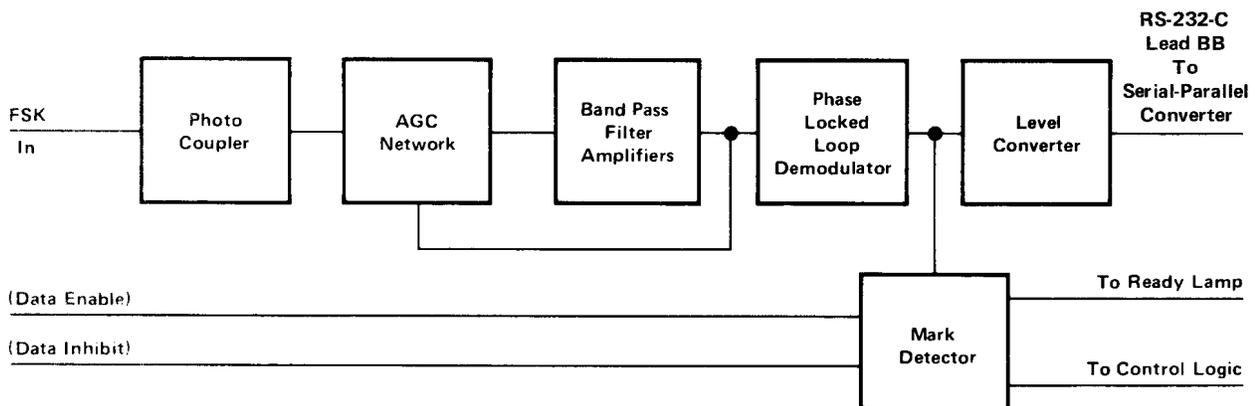

Figure 8, Demodulator Functional Block Diagram
3.06 Demodulator functions are shown in Figure 8. FSK data enters the photo coupler isolating circuit from the telephone line. The FSK signal is then fed to the AGC network. The network amplifies the signal for presentation to the bandpass filter amplifiers. The pre-selector filter is tuned to the band center frequency, 2125 Hz. Space and Mark filters, providing final shaping of the bandpass curve of the receiver, are tuned to 1950 and 2300 Hz, respectively.